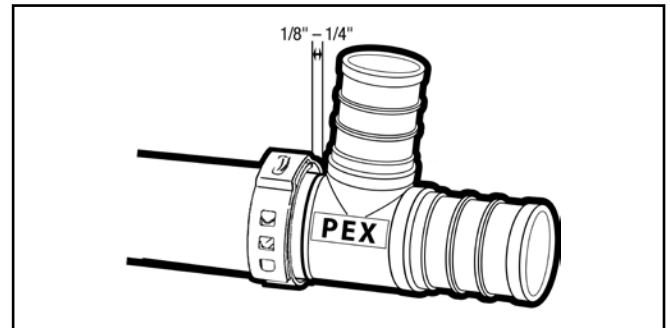

Fig. 3: Insert fitting/position clamp
1. Per ASTM F2098, insert fitting into tubing until shoulder or tube stop contacts end of tubing. Position clamp within 1/8" to 1/4" (3.2 to 6.4 mm) of tube end. (Fig. 3)